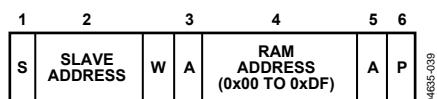

Figure 33. Setting a RAM Address for Subsequent Read
The SMBus specification defines several protocols for different types of read and write operations. The following abbreviations are used in Figure 33 to Figure 41.
- To write a register address to RAM for a subsequent single byte read from the same address, or a block read or write starting at that address, as shown in Figure 33.